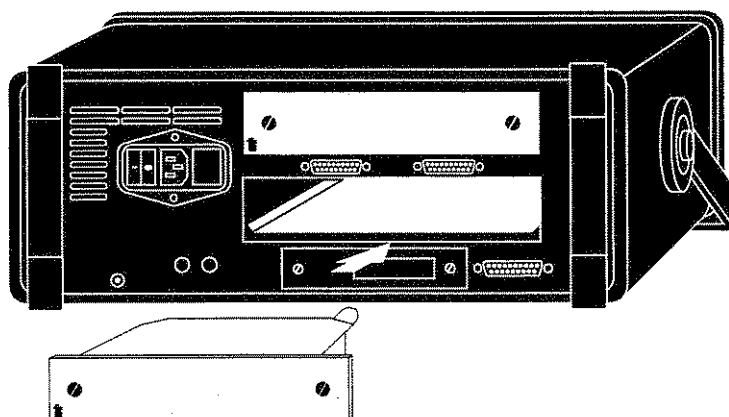

Figure 5-1
To install the DS3 Interface Module, use the procedure immediately following Figure 5-1.
2. Facing the FIREBERD's rear panel, position the Module as shown in Figure 5-1 (faceplate facing out).